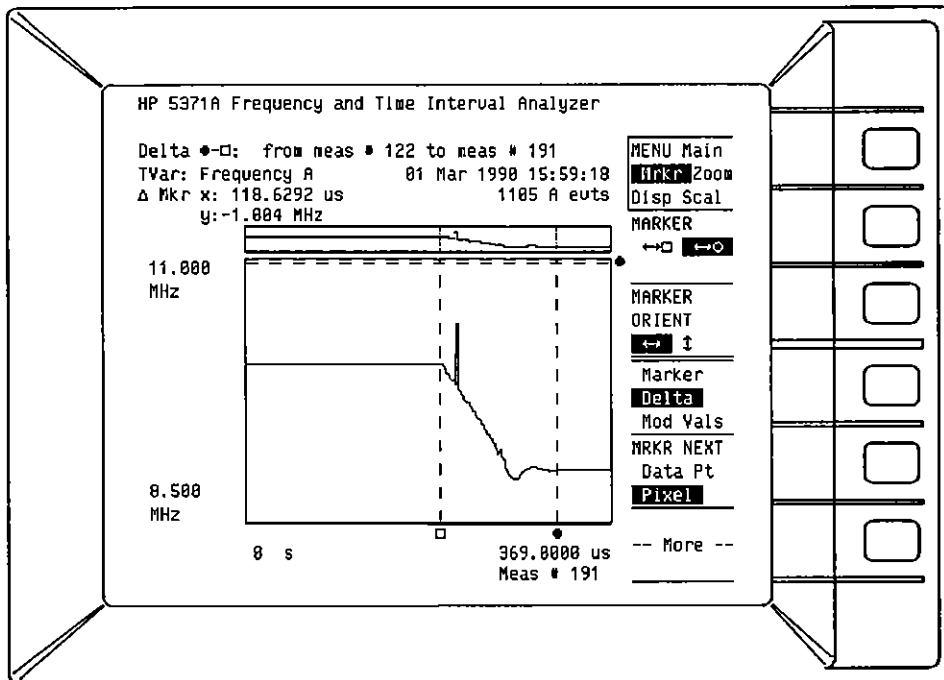

Figure 16-16. Time Variation X-axis Delta
- Delta on the  $\leftrightarrow \square \leftrightarrow \bullet$  markers also provides a count of the input events between markers. This is only for the measurement configurations that provide this data to the graph (see *Figure 16-16*).